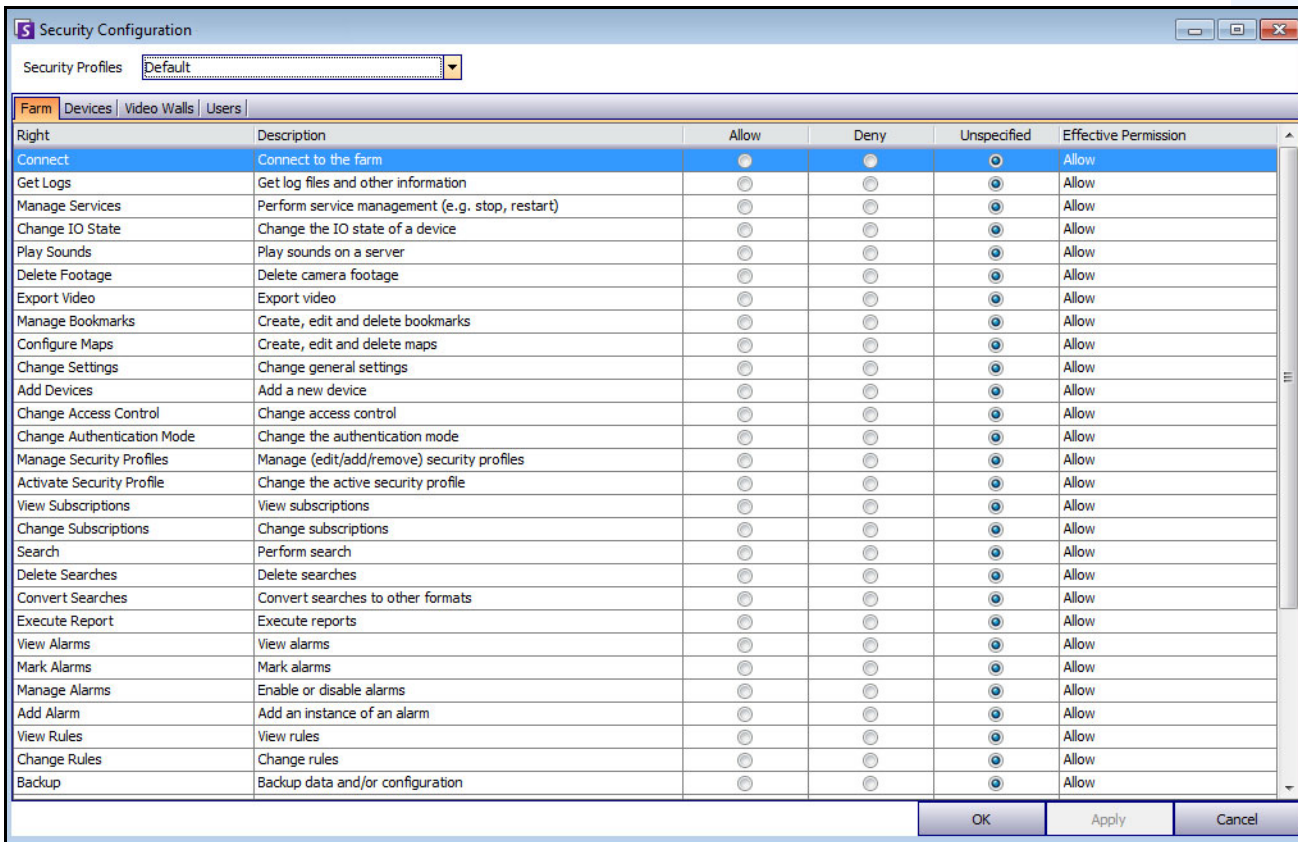

Figure 19. Security Permissions
4. Select the **Allow**, **Deny**, or **Unspecified** option for each **Right** (see Figure 19 on page 43).